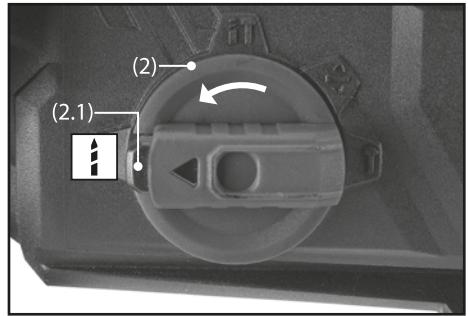

FIG.3
9.1 ROTARY/HAMMER AND DRILLING/ROTATIONAL CHISELLING/CHISELLING SELECTOR SWITCHES – FIGS. 3 - 6
9.2 ROTARY DRILLING - FIG.3
- Rotate the function selector (2) to the rotary drill setting.